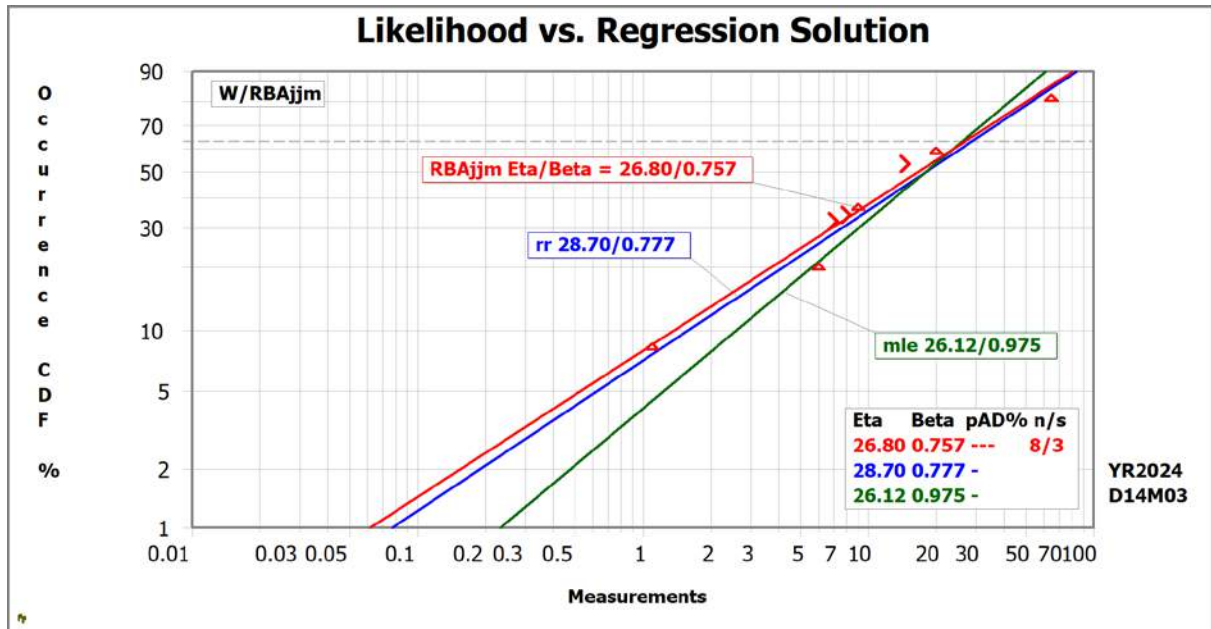

Figure 7: Comparing Rank Regression (rr), Maximum Likelihood Estimate (mle), & mle-RBA (RBAjmm)
- From the Main Screen, Home group, select Open/Import, and open the **PlayTIME-Problem-5.w** file. Select the small plot to enlarge, it should look similar to Figure 7, but with only one line plus the data points.
- Get “RBAjmm” (mmle) solution as follows: From the Main Screen, select Analysis group, Method/Input again, then select the modified maximum likelihood (mmle) icon (showing mle symbol + 2 arrowheads). “RBAjmm” should appear on the plot for solution method. If not, return to Method/Input, select “H...Type Of mle Modified...”, select “1...Weibull...”, then “RBA Mindeguia”. This latest plot (Figure 7) shows RBAjmm fit (**Eta=26.80, Beta=0.757**) agreeing well with Marker Line # 1 (“rr”).